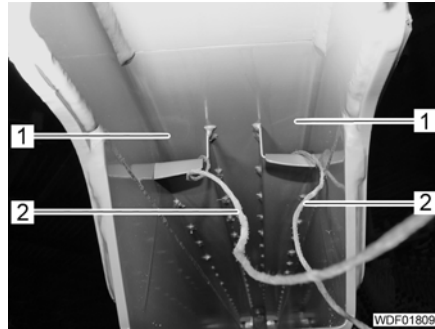
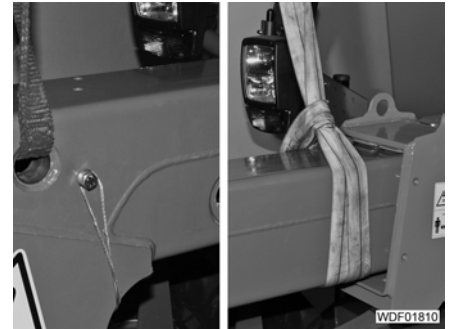

Fig. 531 Drawing in cable
Fig. 532 Securing the inner tube
- When a new inner tube is installed, push the drawing in cable for the hydraulic lines (Fig. 531,2) from back to front through the ducts (Fig. 531,1) at the top in the inner tube.
- Attach inner tube at the front (Fig. 531) and back (Fig. 532) using suitable lifting gear and lift horizontally.